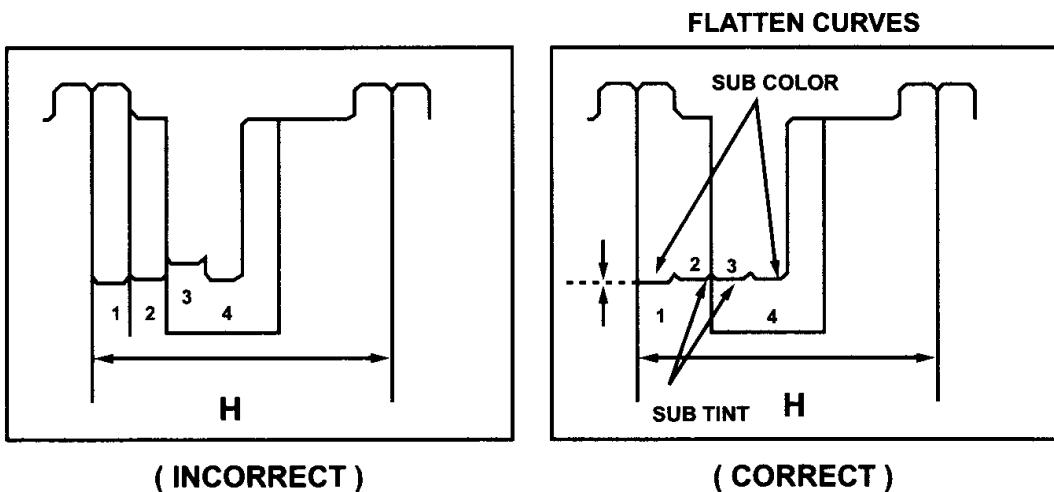

FIG. 2
5. Go to Adjustment Mode (1) by remote control.
6. Select SUB TINT from Adjustment Mode (1) menu screen.
7. Adjust SUB TINT level (by using + or - button on remote control) so that waveform is the same as shown in Figure 2.